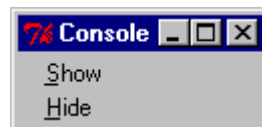

Figure 7-18. Console Menu
- **C**onsole—Provides access to the **C**onsole menu. The **S**how option brings up the wish console window (a built-in feature of Tcl/Tk on Win32). The **H**ide option makes the window disappear. The window allows you to enter Tcl commands. For additional information on use of the Console window, refer to your Tcl/Tk documentation. Figure 7-18 shows the Console menu: